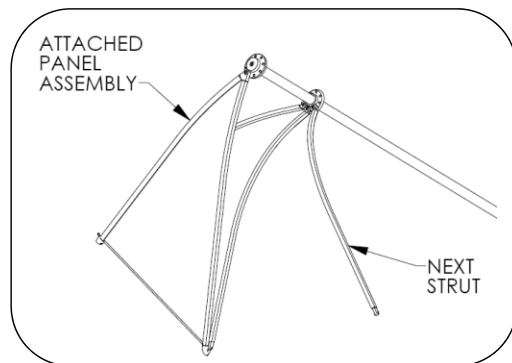

Fig. 5 – Install next strut
6. Attach next strut, working in a counter-clockwise direction when looking at the top of the umbrella. See Fig 5.